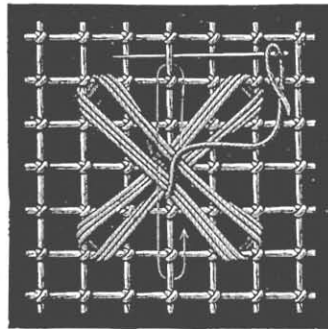

Fig. 22.
**Star composed of long straight stitches** (figs. 22, 23, 24). — This star covers sixteen squares of net. Fasten your thread to the middle knot of the sixteen squares, then carry it in a diagonal line from left to right, under a knot of the net,
bring it back towards the other extremity of the square formed by the sixteen squares of net, slip the needle under the knot and lay three threads in this same direction (see fig. 22). This forms the underneath rays of the star.